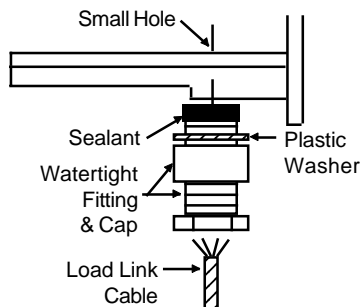

Figure 3-7. Inserting Load Link Cable through Watertight Fitting (Plastic Junction Box)
2. See Figure 3-7. Place a plastic washer on the watertight fitting. Thread the Load Link cable through a cap and watertight fitting. Leave an adequate length of cable between the Load Link and fitting to provide a drip loop.